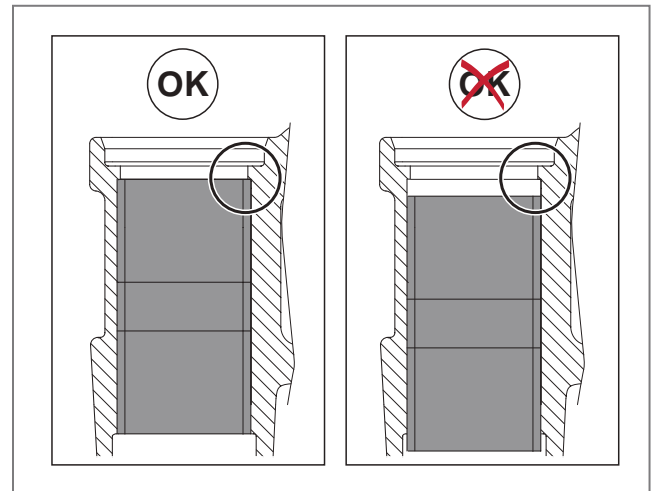

Fig. 67 - Correct/incorrect installation of the fixed bearing bushings
4. Stop once the bearing bushings are seated in the correct position on the inside edge of the bearing locating surface, see ► Fig. 67. It is important that the bearing bushings are seated correctly. However, overtightening can cause damage.